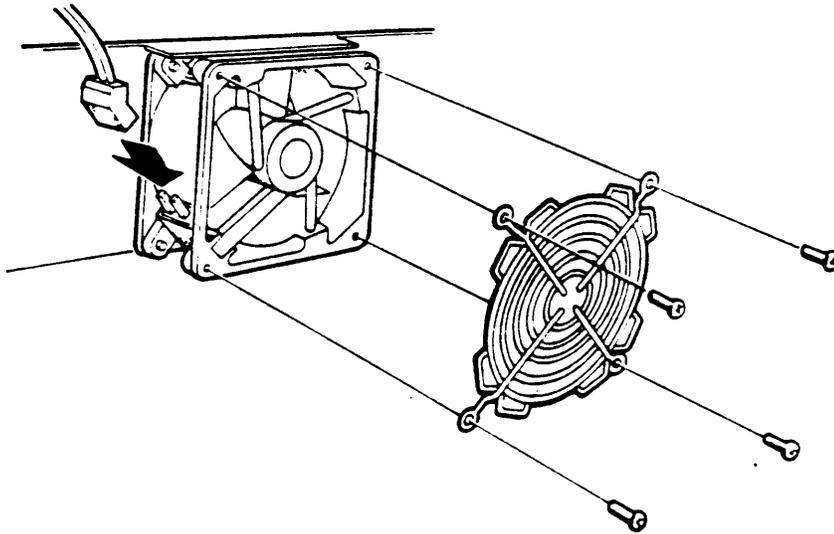

Figure 8-30 Connect Front Fan Power Cable and Fan Guard
1. Remove the power cable and fan guard (if present) from the intake side of the old fan and fit them to the replacement fan (Figure 8-30).
**CAUTION:** The front fan power cable is not keyed. Observe the polarity of the connector. The curve of the connector must match the curve of the fan housing as shown in Figure 8-30.